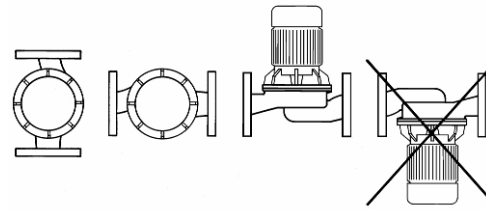

Fig. 1 Pump Installation
1. The pump must be installed as shown in Fig. 1. Direction of flow through the pump casing is indicated by an arrow.